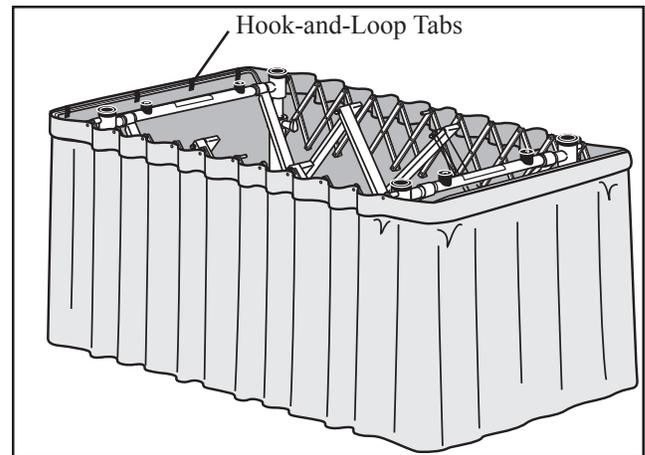

Figure 8 - Attaching Ends of Drape
1. Attach the ends of the drape to the edges of the drape frame with the hook-and-loop tabs located on the vinyl band inside the drape (Figure 8).